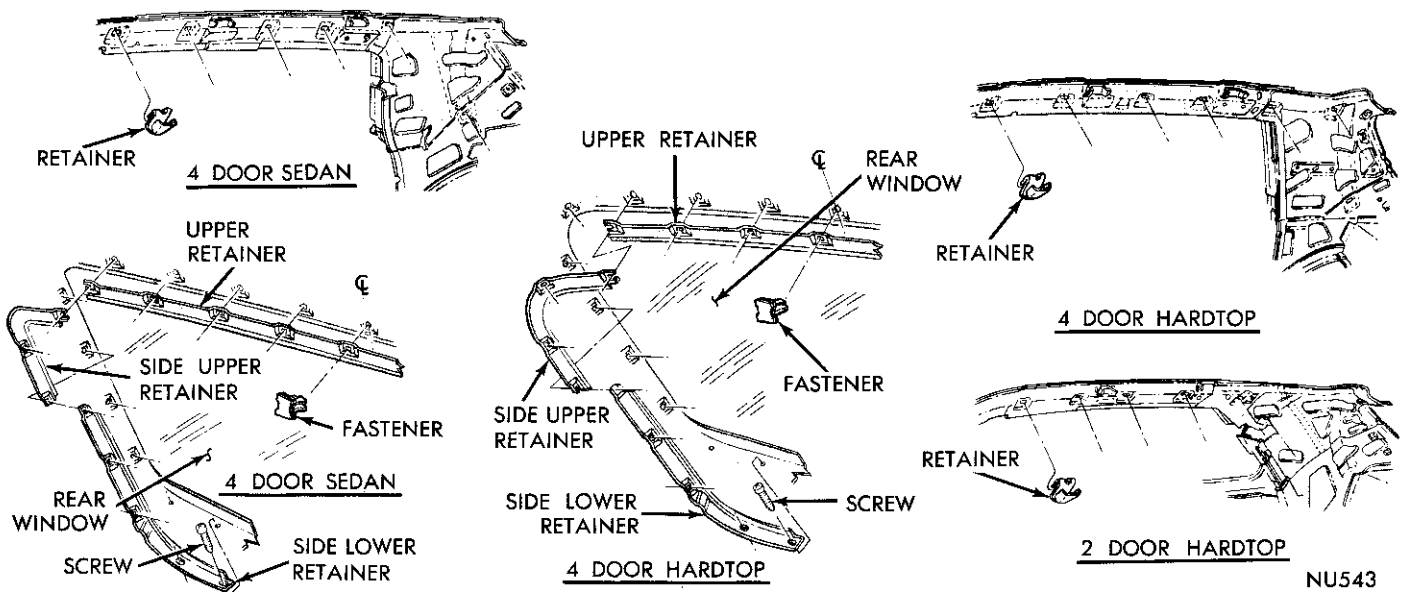

Fig. 3—Listing Wire Retainers
(6) Remove listing wires from side rail retainers (Fig. 3) and support wire from rear listing wire.
(7) Remove all foreign material and cement from windshield header area and rear window opening areas.
(8) Remove listing wires from headlining and insert in comparable listing of new liner.